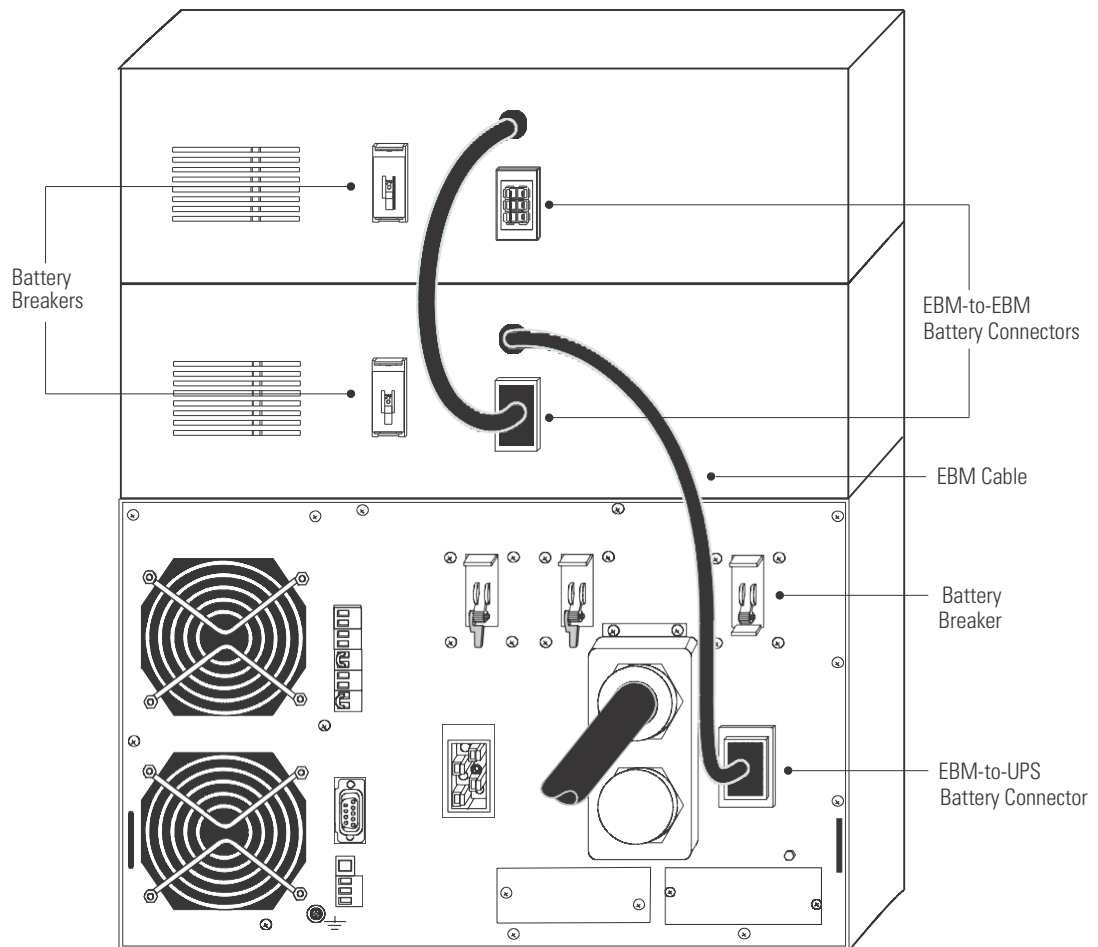

Figure 39. Typical EBM Installation
14. Verify that all battery circuit breakers on all UPSs are in the OFF (O) position (see Figure 39).
15. Plug the EBM cable(s) into the battery connector(s) as shown in Figure 39. Up to four EBM(s) may be connected to each UPS.